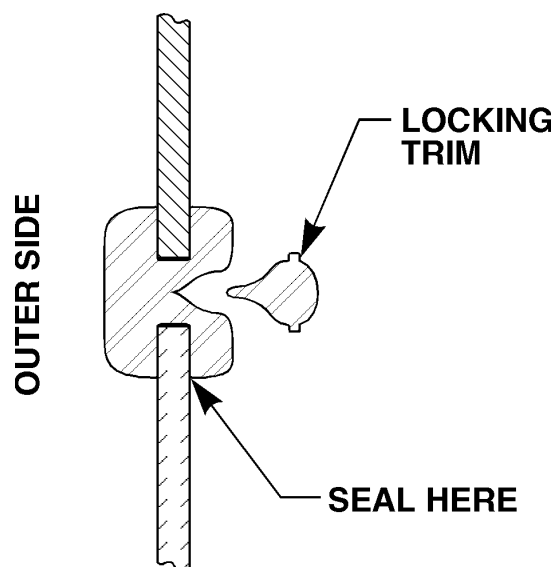

Fig. 17-6 Window seal detail.
4. To replace the window, first replace the **rubber seal** around the enclosure's cutout (See Fig. 17-6).